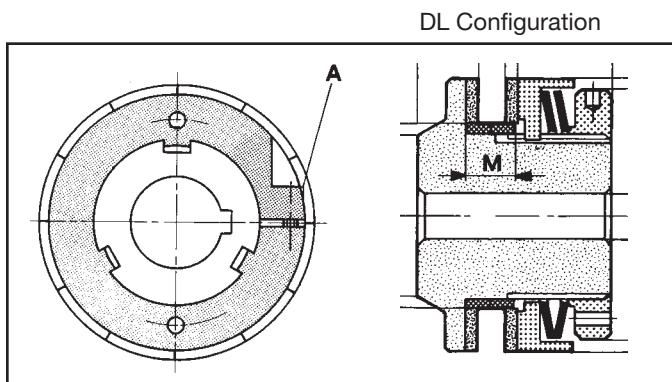

Fig. 6
**FC 40 - FC 170 Sizes:** Make sure that the required disc spring configuration (SL or DL) is installed. Loosen the locking screw A (See Fig. 6) and tighten the adjusting nut with the proper spanner or hook wrench until a slight contact with the springs is established. Then tighten the adjusting nut further to obtain the pressure necessary to transmit the required torque without slipping. Now check if slip occurs at the required torque value and then tighten the locking screw.